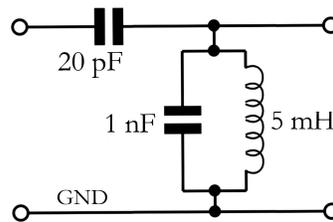
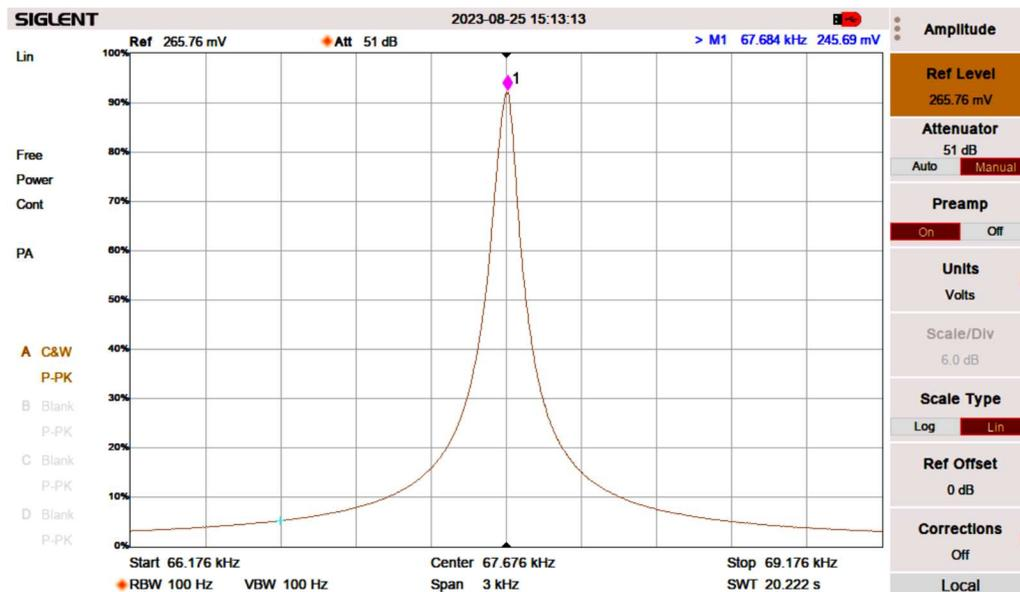

Figure 9. A schematic diagram of the 250kHz bandpass filter found in Box73 in the lab. The specified component values are all  $\pm 10\%$ .
Figure 10. A measured transfer function for the high-Q bandpass filter shown in Figure 9.
**Exercise 8.** Find Box73 in the lab, which is another bandpass filter using the circuit shown in Figure 9. Measure its transfer function, again buffering using the SR560, and add it to your e-notebook. Here you will find that the RBW is an important parameter in your measurement. Figure 10 shows a typical result, here with the vertical axis in linear (not dB) units. What do you measure for the  $Q$  ( $= v_0/\Delta v_{FWHM}$ ) of this filter?